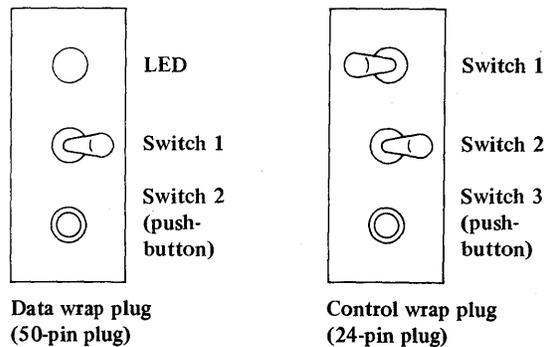

Figure 4-14. Manual mode wrap plugs for test 2
**3** Set the toggle switches on the data wrap plug and the control wrap plug as shown in Figure 4-14.
Are all switches positioned as shown in Figure 4-14?